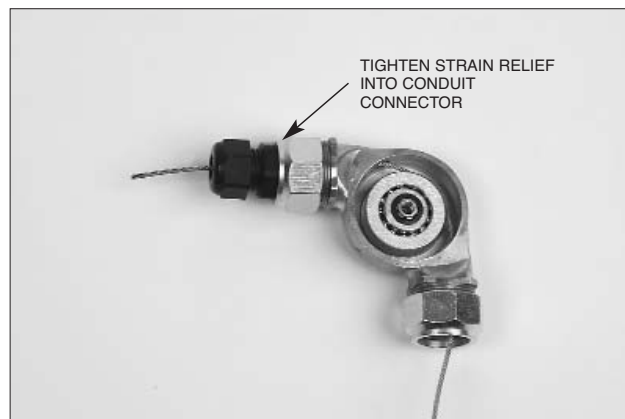

FIGURE 60
5. Tighten the body of the strain relief to the conduit connector. See Figure 60.